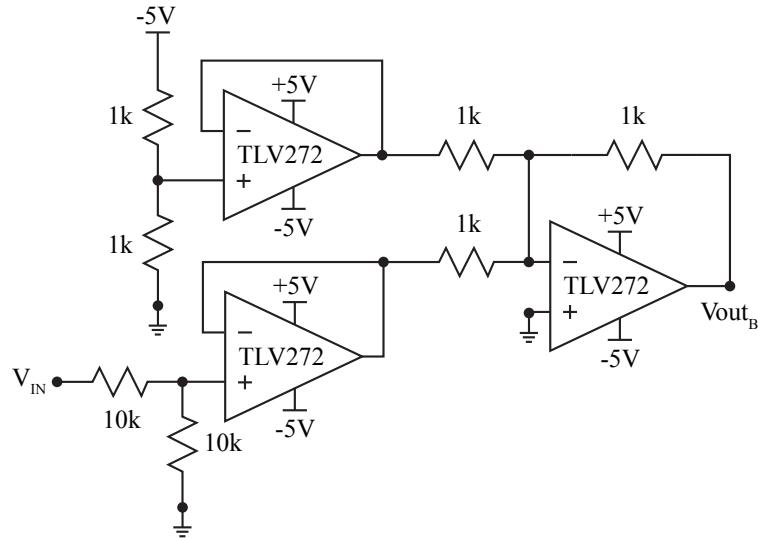

Figure 6.5: A DC level shifter configured to convert the full range of +/-5 to +5/0.
5. In the more general case, the full range of input must be accounted for. Simulate the circuit in Figure 6.5 using a transient analysis with a stop time of 1m (.tran 1m). Set V_{IN} to a sine wave with a 0 V DC offset, 5 V amplitude, and a 1 kHz frequency. Save an image of the circuit and a plot of the input and output voltage for submission to Canvas.